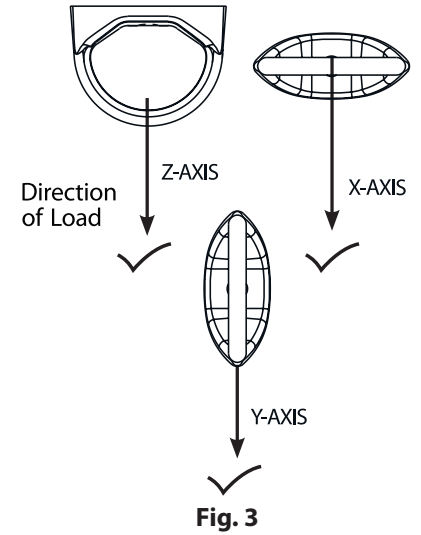

Fig. 3
- The Anchor can be fixed so that the load impact is in any of the directions shown in the Fig.3.